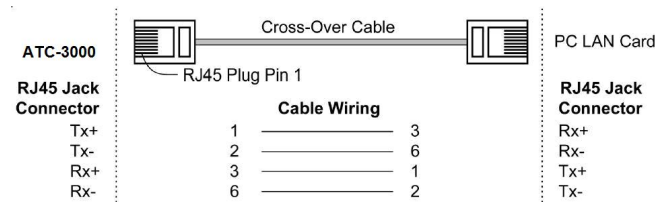

Figure 2
■ ATC-3000 10/100 Port t connect to Ethernet card use cross-Through Cable as figure2